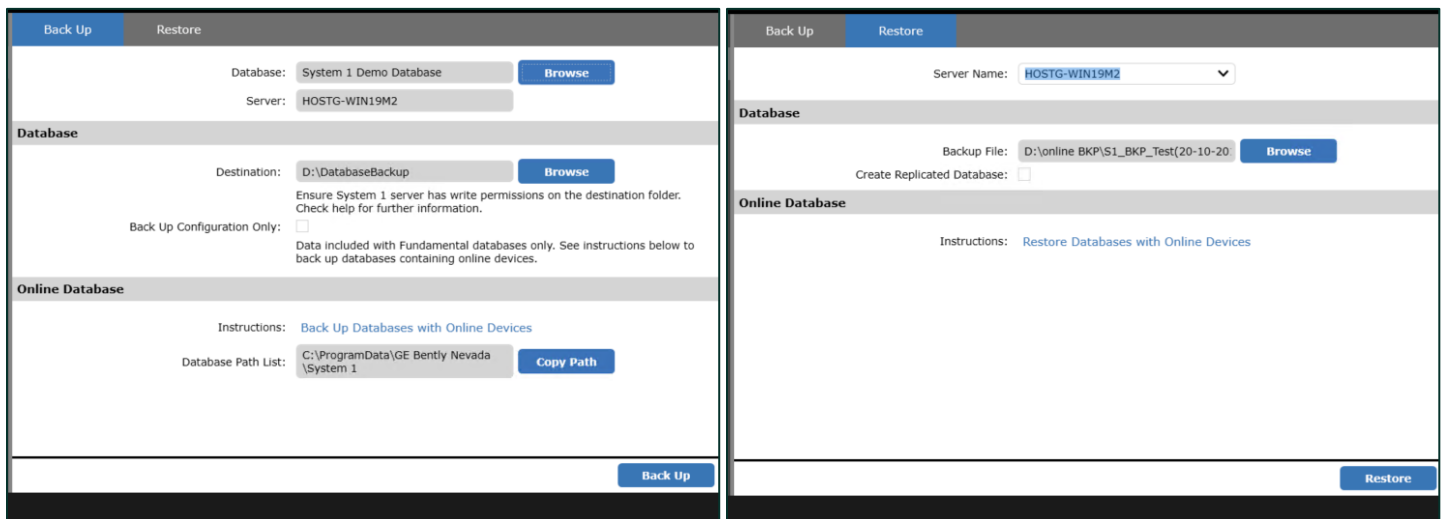

Figure 15: Database Manager Back Up & Restore Dialogs
2. Select Back Up and Restore > Back Up (Figure 15).
2. Select Back Up and Restore > Restore (Figure 15).